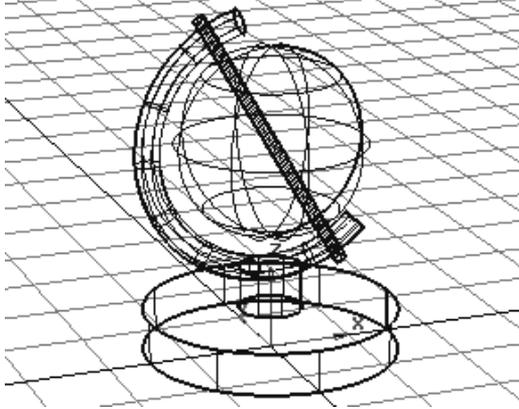

Figure 2-108 Model after rotating the axial rod
4. Enter **0, -30, 0** in the promptline and press ENTER; the ring is rotated about the Y-axis, as shown in Figure 2-108.